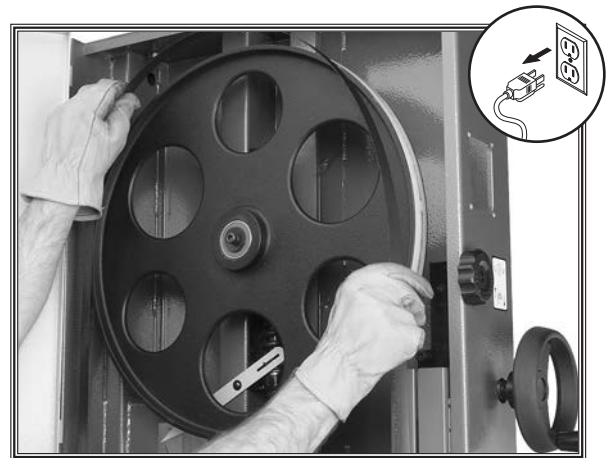

Figure 72. Example of placing blade on upper wheel.
3. Slip blade through blade guides, and mount it on upper and lower wheels (see Figure 72).